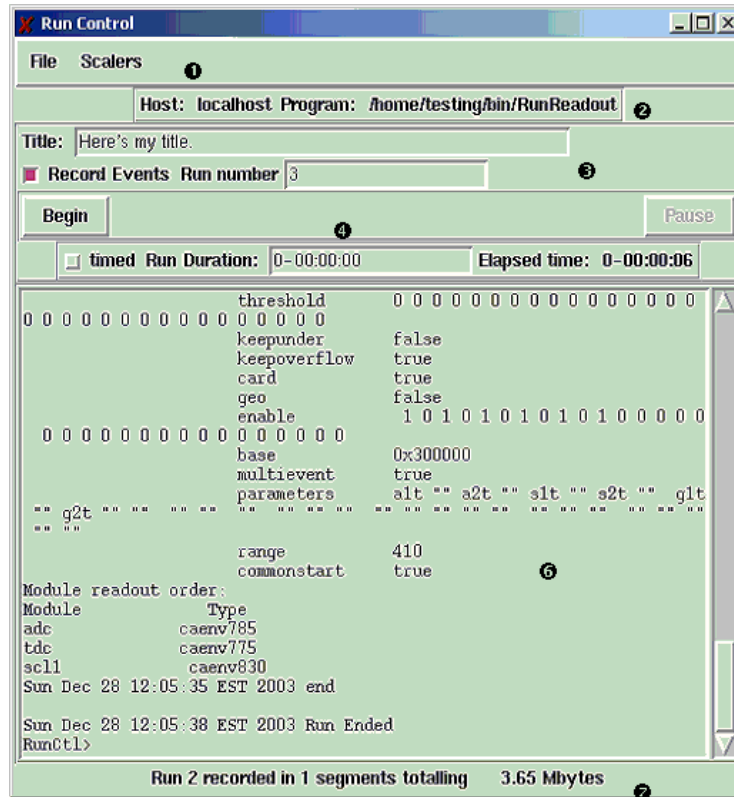

Fig. 7. The Readout control panel.
When you click on the Readout icon, you will see a panel display similar to that shown in Fig. 7. The Scaler menu in segment (1) of the panel allows you to select readout parameters for the periodic scalers, such as the interval between periodic scaler readout. The boxes in segment (3) allow you to type in the run title and the run number.
When you click on the SpecTcl icon, you will see two panels: the SpecTcl control panel (Fig. 9) and the Xamine user interface for SpecTcl (Fig. 10). Xamine is used to display histograms produced by SpecTcl. Once you have clicked on the “Attach on-line” button shown in Fig. 9 to activate the on-line display of spectra, the Xamine user interface allows you to look at spectra. To select a spectrum, hit the “Display” button in Fig. 10 and select from the Spectrum Choice Dialog the spectrum you want to display. (Note: The trendline spectra, which display the count rates in the scintillator quadrants as a function of time and are important as monitoring tools, will not show up in the Spectrum Choice Dialog box until after the run is begun, i.e. until the “Begin” button of Fig. 7 is clicked on.) To display a set of say 4 spectra in a 2-row, 2-column format, hit the “Geometry” button and “apply” the 2x2 option. Each box in the display area is called a *pane*. One pane will always look like it is pressed in; this pane is called the *selected pane*. Once you have selected a pane geometry, you will want to display spectra in the panes of this geometry. To do this you will:
see.trend{u,d,l,r} Trendlines for the count rates in the four quadrants (see Fig. 14); a trendline is a time trace that shows the history of count rate vs. time, like a strip chart. As mentioned in the previous paragraph, the trendline spectra will not be selectable till after the run is begun, i.e. until the “Begin” button of Fig. 7 is clicked on and has become the “End” button. The spectra will disappear in between runs if the “Begin” button is switched on and off between runs.